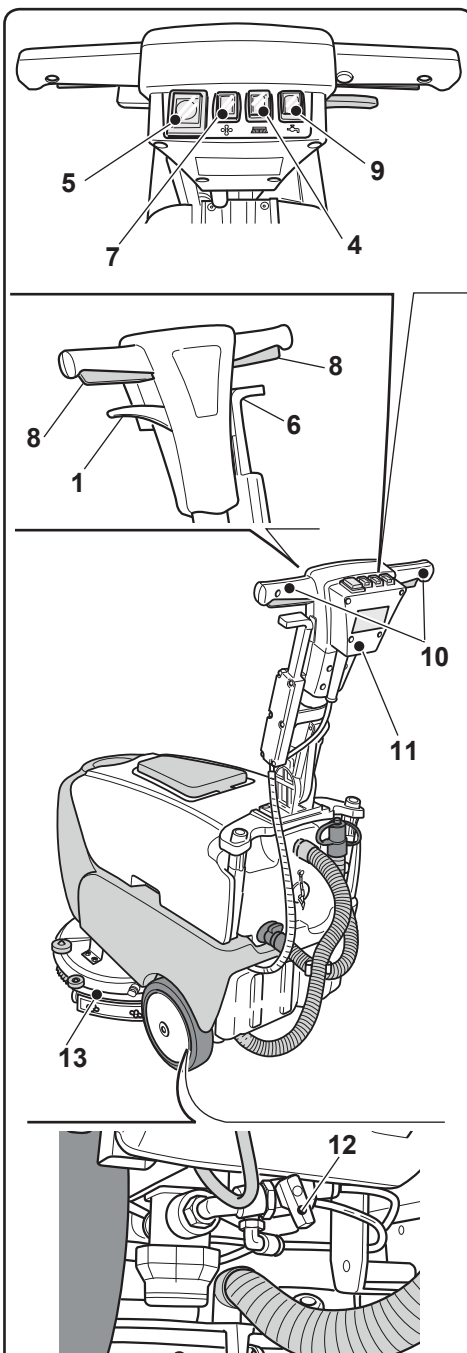

Fig. 12
- Press the button (4) turning it off.
9.1.e - Warnings while using the machine (Fig. 12/a)